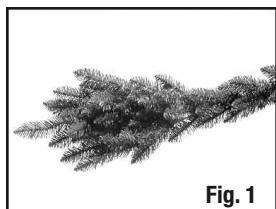

Fig. 1
1. Every tree style is shipped from the factory with the tips of each branch compressed to the center (Figure 1).
2. Pull up on the Bulb Lock unlatching the bulb from the bulb socket. Gently pull the bulb straight out (Figure 1).